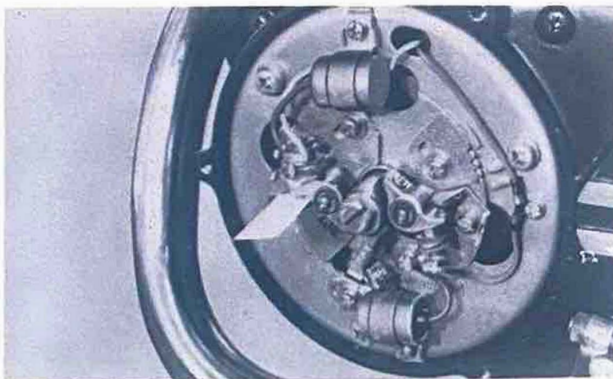

Fig. 57
(2) Breaker points – checking and cleaning (Fig. 57)